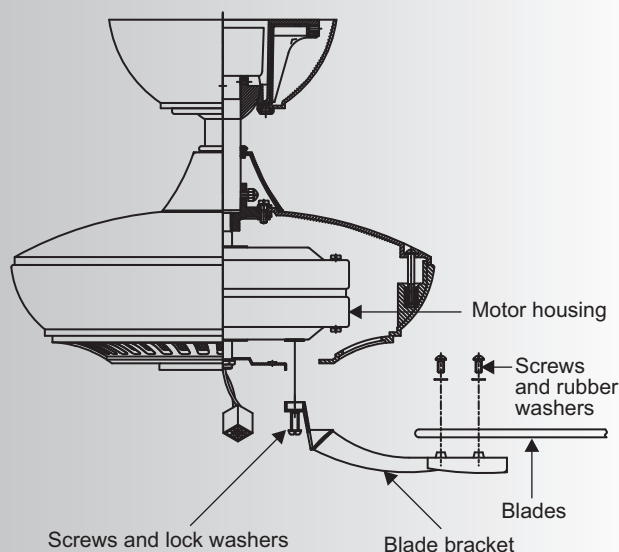

Fig. 14
Step 1. Attach the blade (sold separately) to the blade bracket using the screws and rubber washers provided with the blade set as shown in Figure 14. Start screw into bracket. Repeat for the two remaining screws.